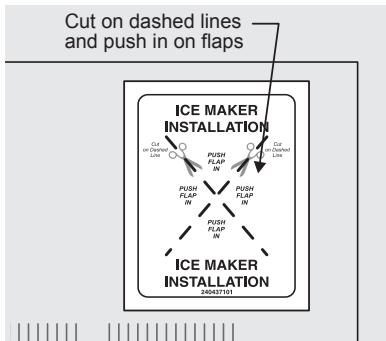

Figure 13
14. Cut the Ice Maker Installation label on dashed lines located on the outside rear panel of the refrigerator at the top, right corner. Push the flaps inward until they stick to the unit. See Figure 13.